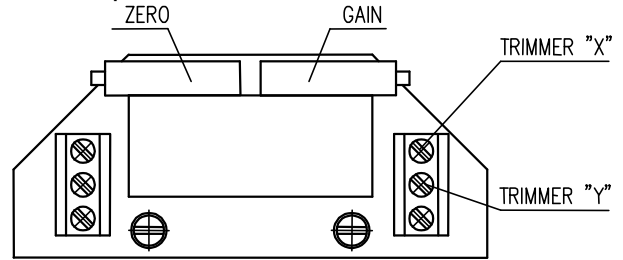

Fig. 6
**4.4.2 EPV – 3-wire version (Fig. 6,6a)**
- Adjust the resistive transmitter according to the previous chapter. The resistance is to be metered on the terminals X-Y (Fig. 6,6a). The used transmitter resistance is 2000W or 100 W.
- Turn the adjusting trimmer ZERO (Fig. 6,6a) to adjust the output current signal rate measured on the terminals 81-82 to 0 mA or 4mA.
- Turn the adjusting trimmer GAIN (Fig. 6,6a) to adjust the output current signal rate measured on the terminals 81-82 to 20mA or 5 mA..